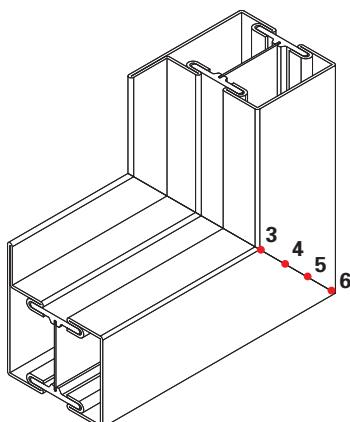

Fig. 82 *Tack the smaller surface every 20 to 30 mm (3-6)*
4. Tack the visible surfaces (Fig. 82 to 87)